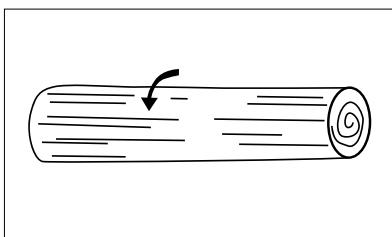

Fig. 20
1. If the log is supported along its entire length, drive the chain saw from top to bottom while making sure that the chain does not run into the ground (fig. 20).